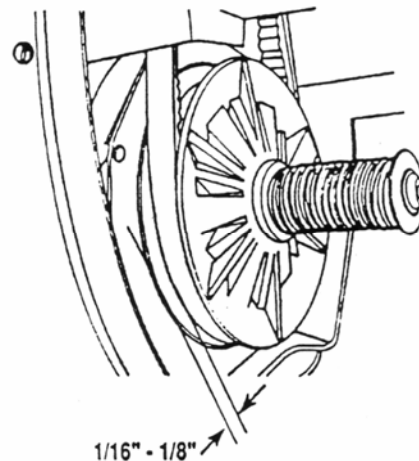

Fig. 4
2. Plug in and turn on the machine. Turn the speed dial toward "Fast" until the tachometer reaches 5,200 rpm or until the top of the drive belt is $1/8"$ - $1/16"$ below the outside diameter of the lower sheaves, or the high speed stop is engaged (see Fig. 4). Use a grease pencil to mark the location of the access hole in the speed control handle on the headstock casting. Then turn the speed control handle part of a revolution toward "Slow" until the access hole in the side of the speed control handle is facing up.